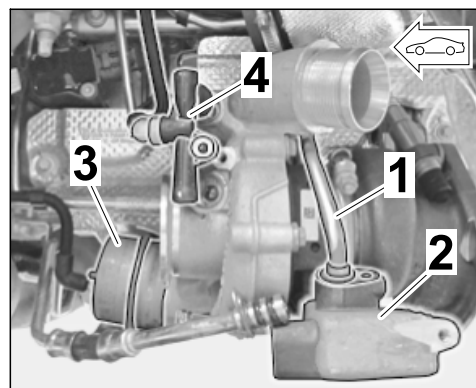

Figure 21
- 3.1.1 Remove Torx screw (M6 x 12) on oil supply line/turbocharger oil tank flange (cyl. 1–3 ⇒ *Figure 21 -1-*/cyl. 4–6).
- Remove Torx screw (M6 x 12) on tank ventilation line flange and carefully loosen the flange (⇒ Figure 21 -4-).